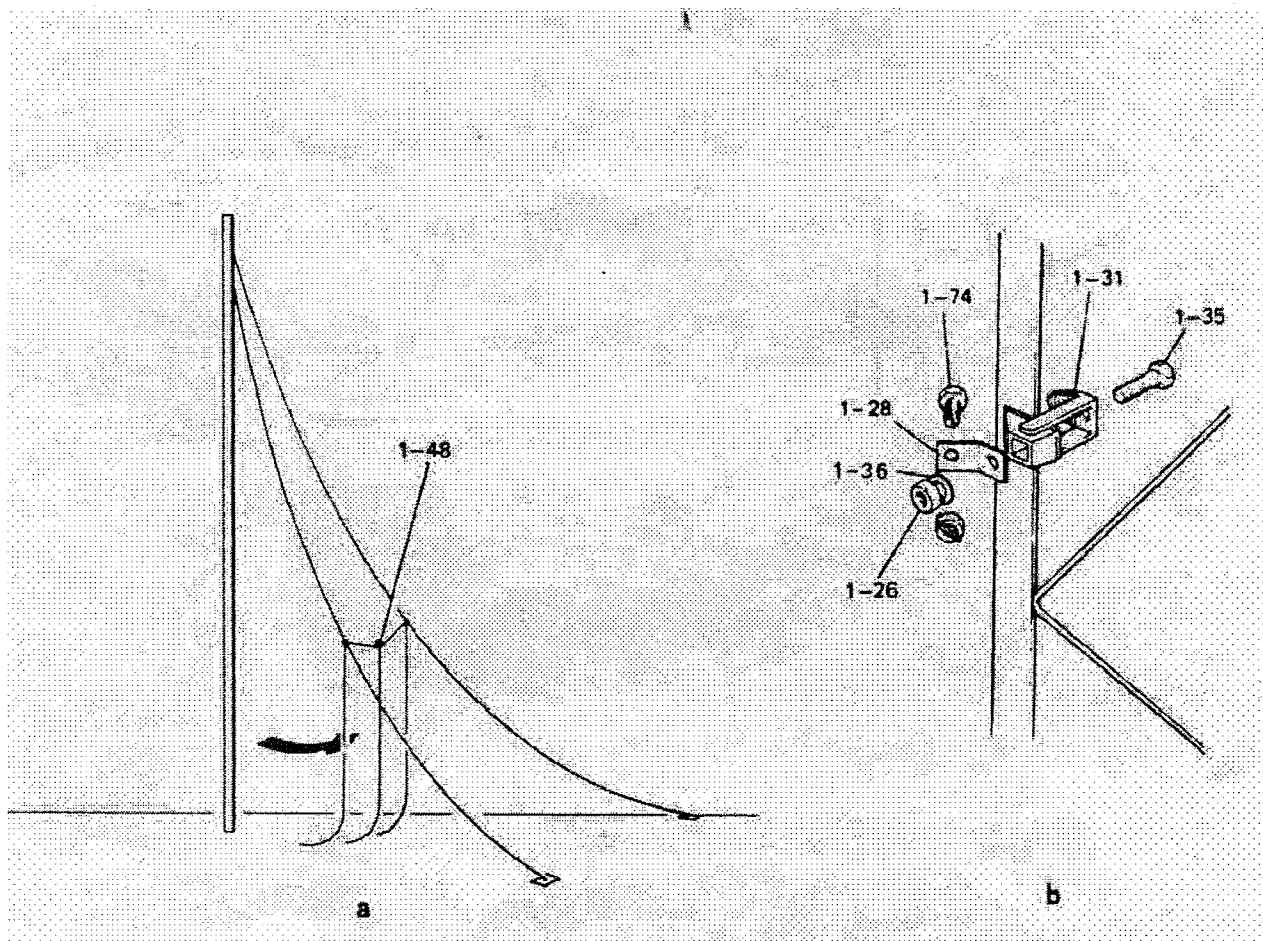

FIGURE 17B – Fitting the Lindapter Brackets
Step 7 Assemble a Lindaptor (1-31) and antenna wire fastening bracket (1-28) to each mast leg using a bolt (1-35), washer (1-36), and nut (1-26). See Figure 17B. Fix a line tap (1-74) to each bracket. The Lindaptors are to be fitted at 12m above ground level.